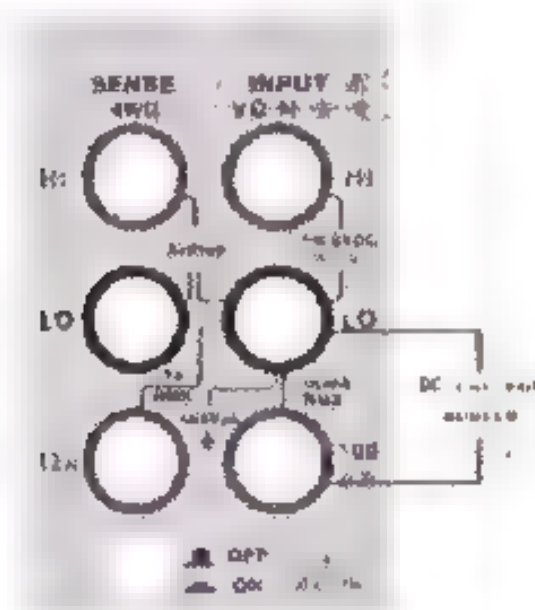
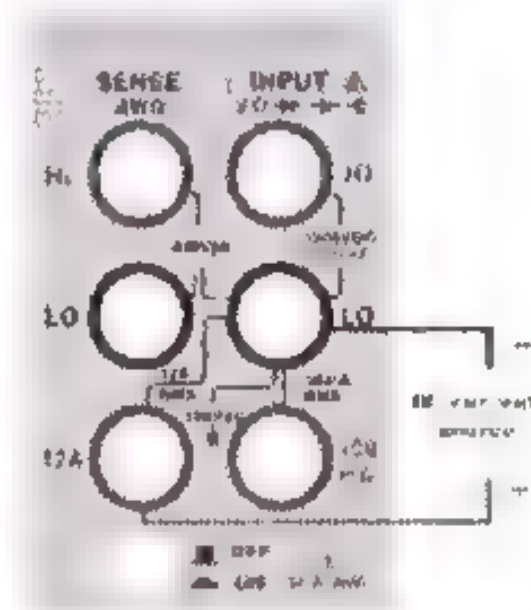

Figure 4-6 Wiring method for low current measurement
Figure 4-7 Wiring method for high current measurement
2. Choose different test terminals according to the measurement level. See Figure 4-6 for current of 200mA and below, and connect the red and black test leads respectively to the proper input terminals. See Figure 4-7 for current from 200mA to 10A, and connect the red and black test leads respectively to the proper input terminals.